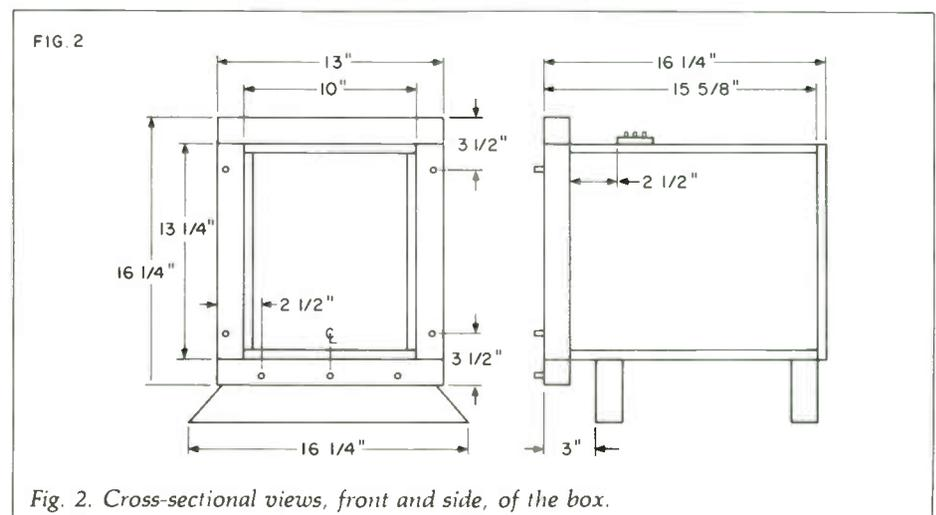
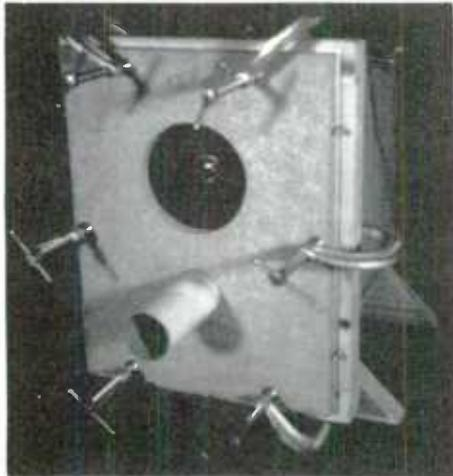

Fig. 2. Cross-sectional views, front and side, of the box.
Fig. 3A. Front of the box with clamps in place.
Connect the horizontal scope input to the meter terminals reversed with scope ground to meter hot. Connect the vertical input to signal hot and meter hot, with the scope ground to meter hot (see Fig. 2). Set mode select to I, and meter select to E. The vertical input senses the voltage across R_v , which is proportional to the current through the speaker. Horizontal sensitivity will have to be much higher than vertical sensitivity. Incidentally, if you disable the horizontal input and use a triggered sweep, you will see the current waveform. This should not appear distorted; if it does, the drive level is too high.
Fig. 2. Test setup using the Widget. The six crossed terminals in Fig. 1 are represented by the six crossed terminals above. The box interconnects meter, frequency counter, audio generator, oscilloscope and driver.
The test box is constructed of $\frac{5}{8}$ " chipboard; inside dimensions are 12" high x $8\frac{3}{4}$ " wide x $15\frac{5}{8}$ " deep. The front board, which can be removed by releasing six c-clamps (Figs. 3A and 3B), becomes the test baffle for the "free-air" part of the testing. Figures 2 and 4 show the box's 2"x 2" external front lip; this ensures the needed stiffness when clamping on the front board. The $\frac{1}{16}$ " foam tape gasket that the front board seats on establishes an airtight seal.
You need a sine wave generator (G), a voltmeter (V), and a resistor (R_{cc}) hooked up as in Fig. 2 for this method. The resistor R_{cc} converts the generator into a constant current source making readings on the voltmeter proportional to the impedance between A and B. Choose R_{cc} with a resistance eight to 10 times larger than any impedance value you expect to measure. Driver impedances are rarely larger than 100 ohms, so a good choice for R_{cc} is 1000 ohms. A one watt $\pm 5\%$ should work fine.